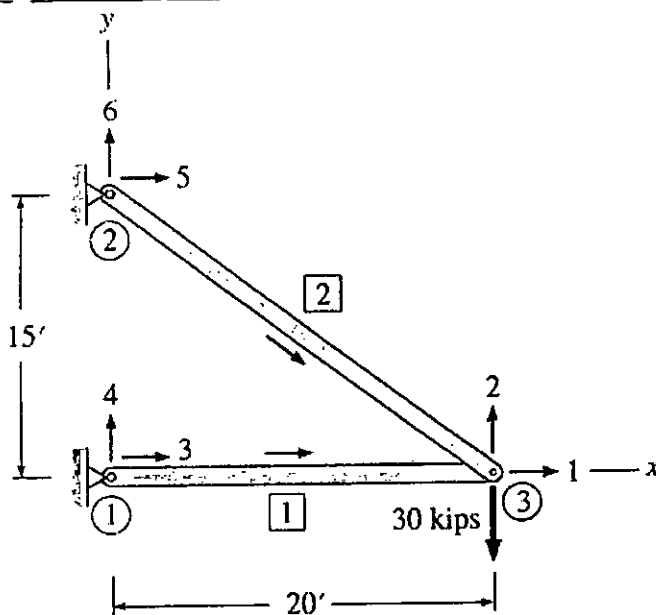

Fig. 9
7. Determine the joint displacements and bar forces of the truss shown in Fig. 9 by the direct stiffness method. Member properties:  $A_1 = 2$  in.2,  $A_2 = 2.5$  in.2, and  $E = 30,000$  ksi. (26)